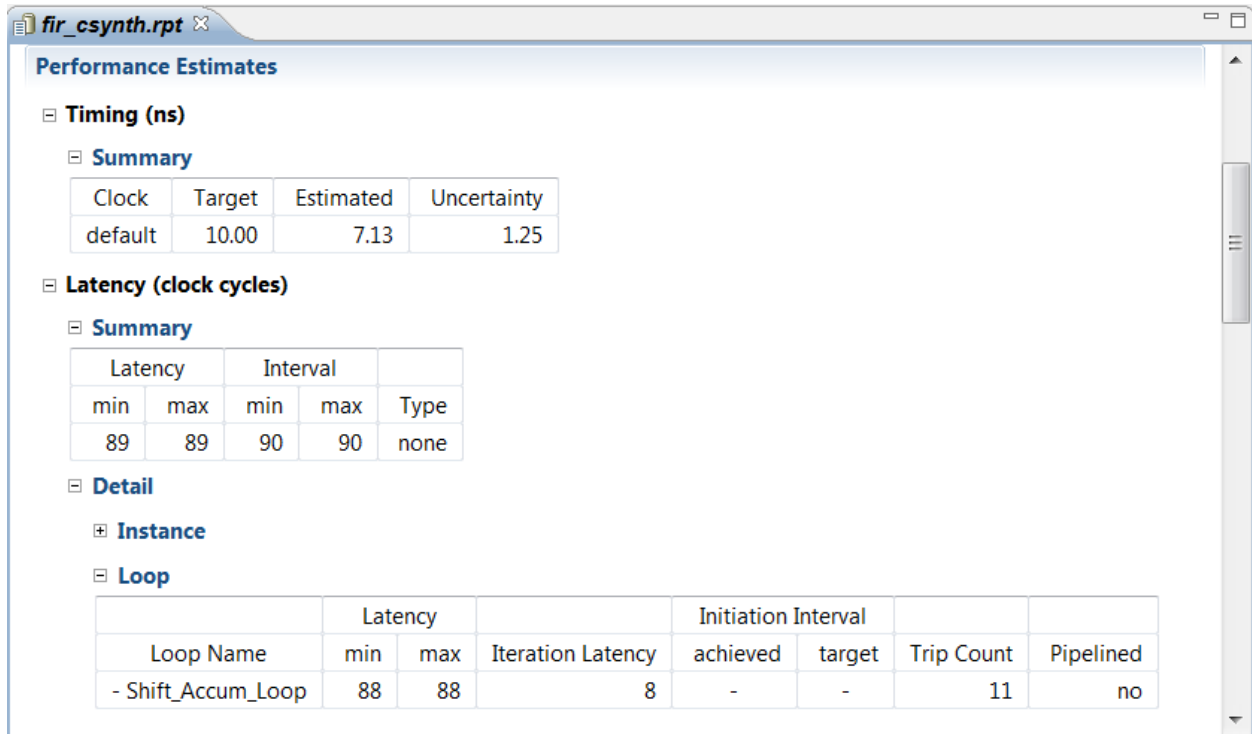

Figure 12: Performance Estimates
2. Click **Performance Estimate** in the Outline tab (**Figure 12**).
In the Performance Estimates pane, shown in Figure 12, you can see that the clock period is set to 10 ns. The estimated clock period (worst-case delay) is 8.43 ns. This includes an uncertainty of 1.25 ns. Therefore, the worst-case delay is roughly $8.43 - 1.25 = 7.18$ ns.